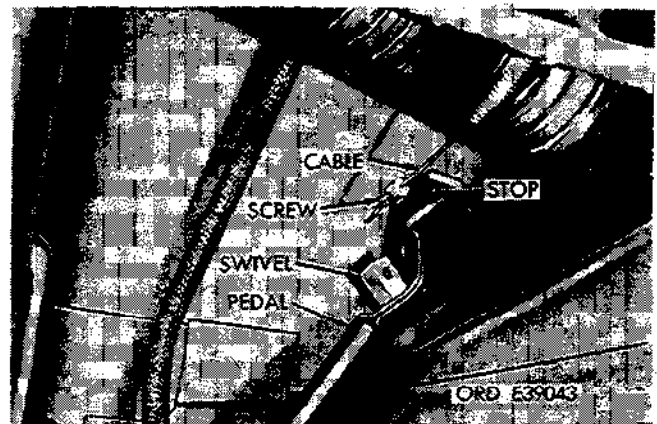

Figure 2-101. Disconnect swivel from accelerator pedal.
(3) Loosen throttle stop screw and remove stop from throttle cable. Disconnect throttle cable swivel from accelerator pedal (fig. 2-101).